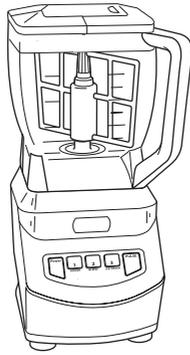

Fig. 13
- 5 Add the ingredients and secure the bowl lid onto the bowl. (Fig. 13)